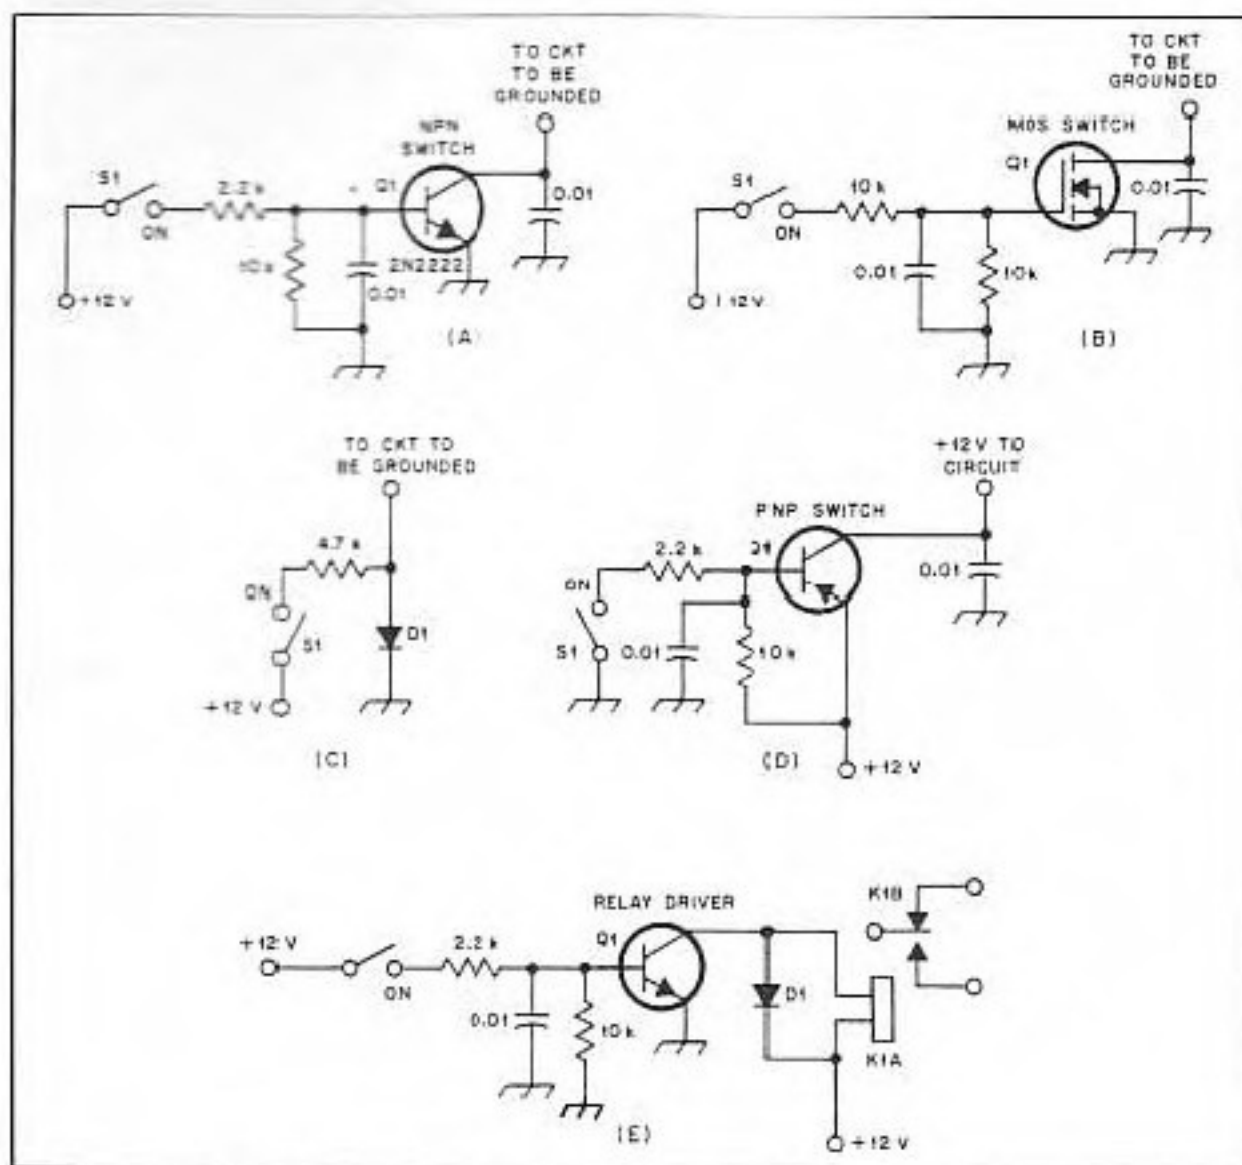

Fig. 4 — Various semiconductor switches (see text).
Our workshop project this month is shown schematically in Fig. 4. It is patterned along the lines of a broadband amplifier designed by Hayward, W7ZO1. His design did not use transformers and there was no high-level stage at the tail end of the amplifier strip, but the feedback networks are similar to his. The particulars of the general design are given in the text of *Solid State Design for the Radio Amateur*, referenced earlier in this article.
Owing to the linearity and bandwidth of the circuit in Fig. 4, it is ideal as a drop-in
Fig. 4 — A practical circuit for a broadband linear-amplifier strip. This can be used as an instrument amplifier, a low-level RF strip in a transmitter or as part of a receiving-loop preamplifier. Resistors are 1/4-W carbon-composition unless otherwise noted. The polarized capacitor is tantalum or electrolytic. All others are chip-style or disc-ceramic with short leads. T1 and T2 contain 15 primary turns of no. 28 enameled wire on an Amidon FT37-43 toroid core. The secondary windings consist of seven turns of no. 28 enameled wire. T3 uses an Amidon FT50-43 toroid core with 12 primary turns of no. 26 enameled wire. The secondary of T3 contains six turns of no. 26 wire.
Fig. 5 — Circuit-board etching pattern for the broadband amplifier of Fig. 4. The pattern is shown full size from the foil side of the board. Black areas represent unetched copper foil.
This amplifier can be used also as a preamplifier for loop antennas. A step attenuator can be inserted at the output of the amplifier to control the gain. If you choose to use this circuit in such a manner, a low-noise preamplifier should precede Q1 of Fig. 4. I find that a JFET stage is suitable for this purpose. Owing to the small signal that a receiving loop provides, the preamplifier (even at 1.8 MHz) must be a low-noise type. If not, you will enjoy listening to "pop-corn" noise along with the DX signals! Q1 does not have a low enough noise figure for satisfactory weak-signal reception.
A broadband amplifier can be built for Class A, B or C service, just as narrow-band amplifiers can. The advantage of broadband designs is, in retrospect, to obtain a wide frequency response with relatively flat gain. This helps us to design circuits that do not require band-switching provisions. In other words, it simplifies the design of a multiband transmitter. But, as an instrumentation amplifier, the circuit of Fig. 4 has a great many advantages around the workshop. Good luck with your project.
Fig. 4 contains a number of examples that show how we may use various semiconductor devices as shunt switches. S1 in each case represents a mechanical switch or CW key that turns on the electronic switch. As we learned earlier, turn-on can be effected also by other electronic switches in the overall circuit. For example, AGC voltage or rectified speech energy could be used to actuate a semiconductor switch, depending on the application for the switch; the possibilities are virtually without limit.
Circuit A of Fig. 4 is an NPN transistor switch. A positive voltage is required at the base of Q1 in order to turn it on. The 10-k Ω resistor from the base to ground is used to minimize transistor leakage current when the switch is in the OFF mode. This circuit might be used to key a driver stage in a solid-state CW transmitter. If so, the collector of Q1 would be hooked to the emitter of the keyed stage. S1 would be the CW key, or the keying line from a keyer.
A simple diode switch is shown at C of Fig. 4. To the right is a PNP transistor switch (D). The base must be grounded through the 2.2-k Ω resistor to cause turn-on. A 10-k Ω resistor is connected from base to the +12-V line to help cut off the transistor in the OFF mode. This resistor can be eliminated in the circuits of Fig. 4A, 4D and 4E if two 1N914 diodes are connected in series with the emitter leads. The diode junctions will reverse bias the transistors by approximately 1.4 V. The resistor or biasing diodes are especially important in the circuit of Fig. 4E — a relay driver. Without reverse bias, the relay may remain energized after the transistor is turned off. This is because a small amount of leakage or idling current will remain, and it may